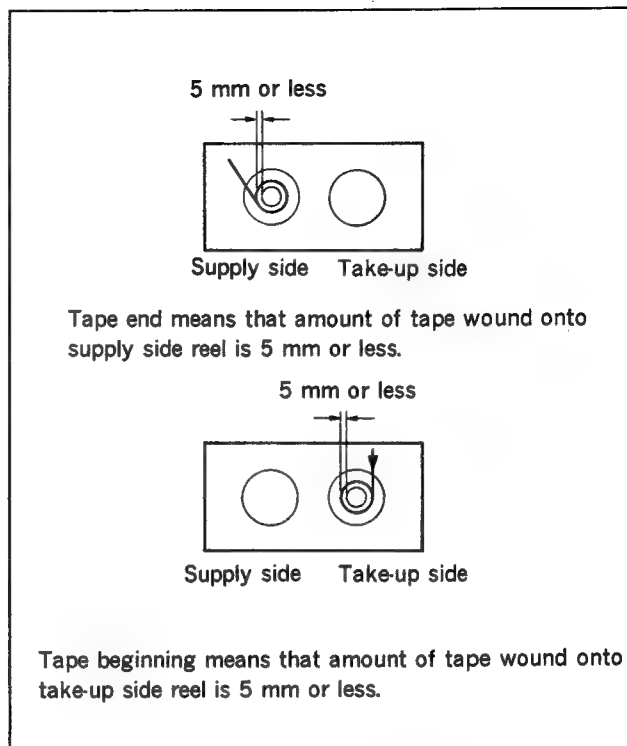

Fig. 6-5-1 Tape end or tape beginning
- Thread a commercially available tape. Use the tape end or tape beginning. Check by visual view that tape produces no tape wrinkle nor tape curl. So called tape end and tape beginning mean the conditions shown in Fig.6-5-1.